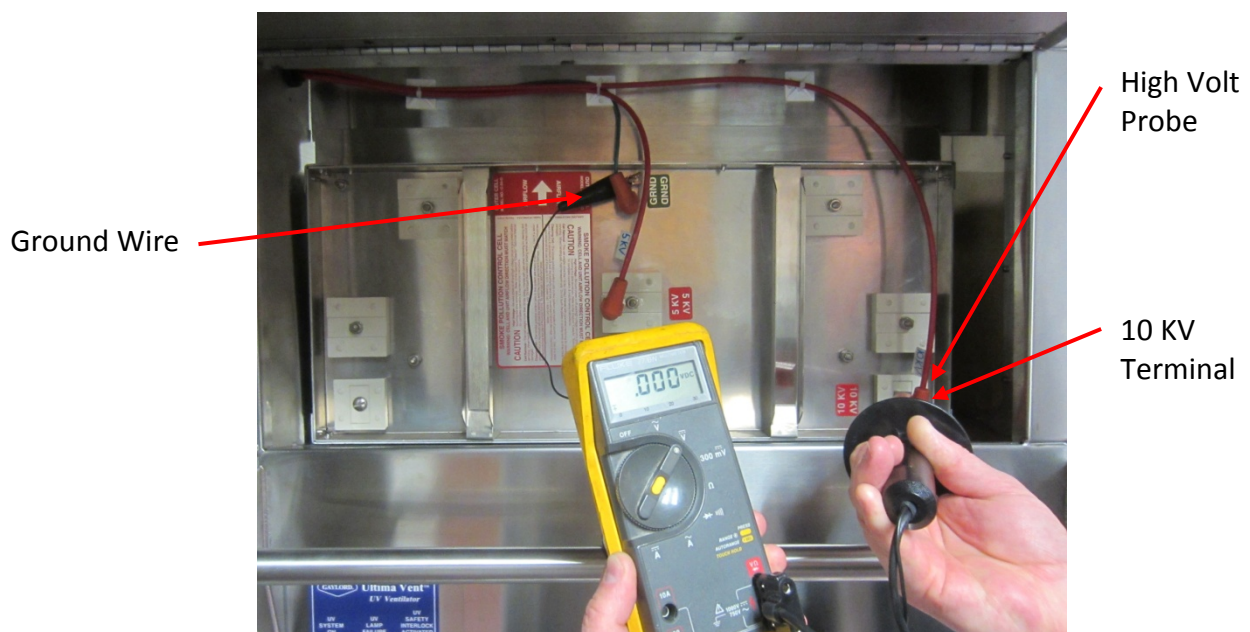

Figure 4-5-1
- a) Ionizer Voltage Test (10 KV Terminal) – Clip the ground lead from the high voltage probe onto the ground nut (Refer to Figure 4-5-1).
- b) Place the point of the high voltage meter onto the 10 KV connection plate (Refer to Figure 4-5-1). There should be no voltage. If there is voltage do not proceed. Refer to the Troubleshooting Section of this manual. If there is no voltage proceed to step c) the Collector Voltage Test.